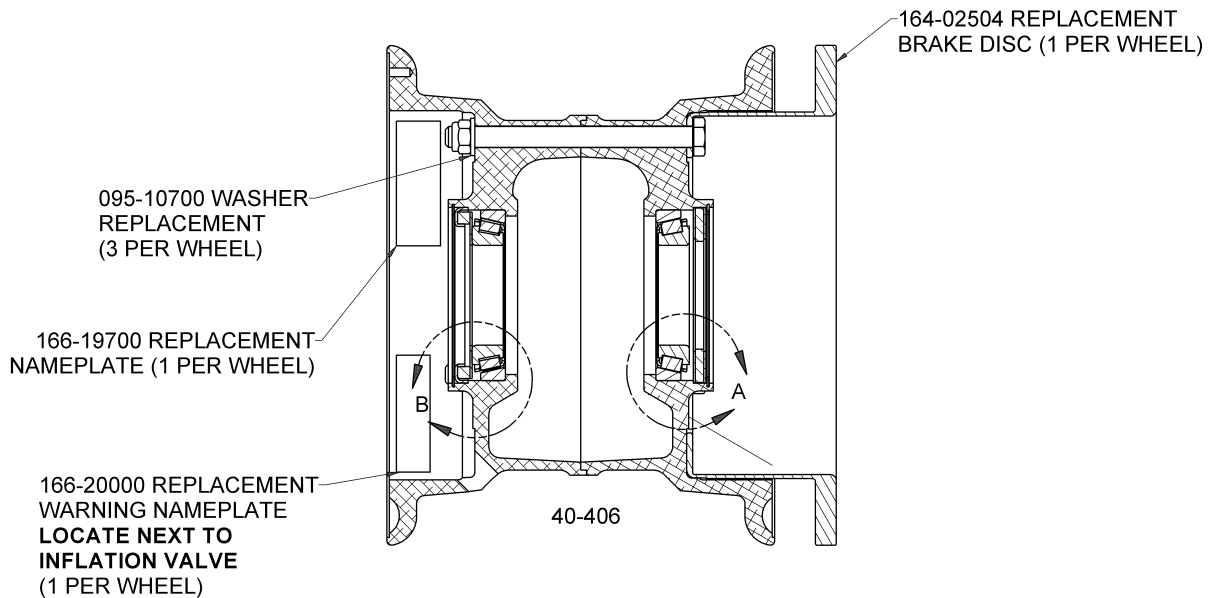

Figure 2
5) Assemble the wheel-tire assembly with the hardware furnished in SB7085-1 Conversion Kit, (Table 1) IAW Parker AWBCMM0001-6 Component Maintenance Manual and as shown in Figure 2.
6) Apply replacement nameplate, P/N 166-19700, on outboard wheel half opposite inflation valve hole. Ref. Figure 2. (The manufacturing date code for all replacement nameplates will include "R" between the month and year that it is printed to indicate a replacement nameplate. A nameplate printed in February of 2006 will bear Mfg. Date of 02R06).
7) Apply P/N 166-20000 Warning Nameplate adjacent to the inflation valve hole, Ref. Figure 2. Do not apply over existing nameplate. (Two warning nameplates are permissible.)